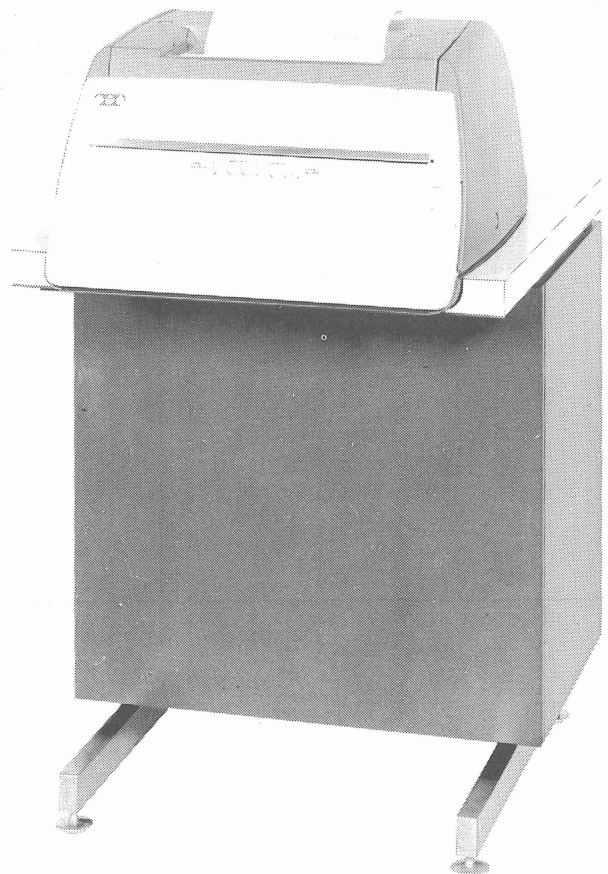

Figure 1 - 37 RO Teletypewriter Set
1.01 This section is issued to provide actual and schematic wiring diagrams and detailed circuit description information for the 37 Receive-Only (RO) Teletypewriter Set (Figure 1).